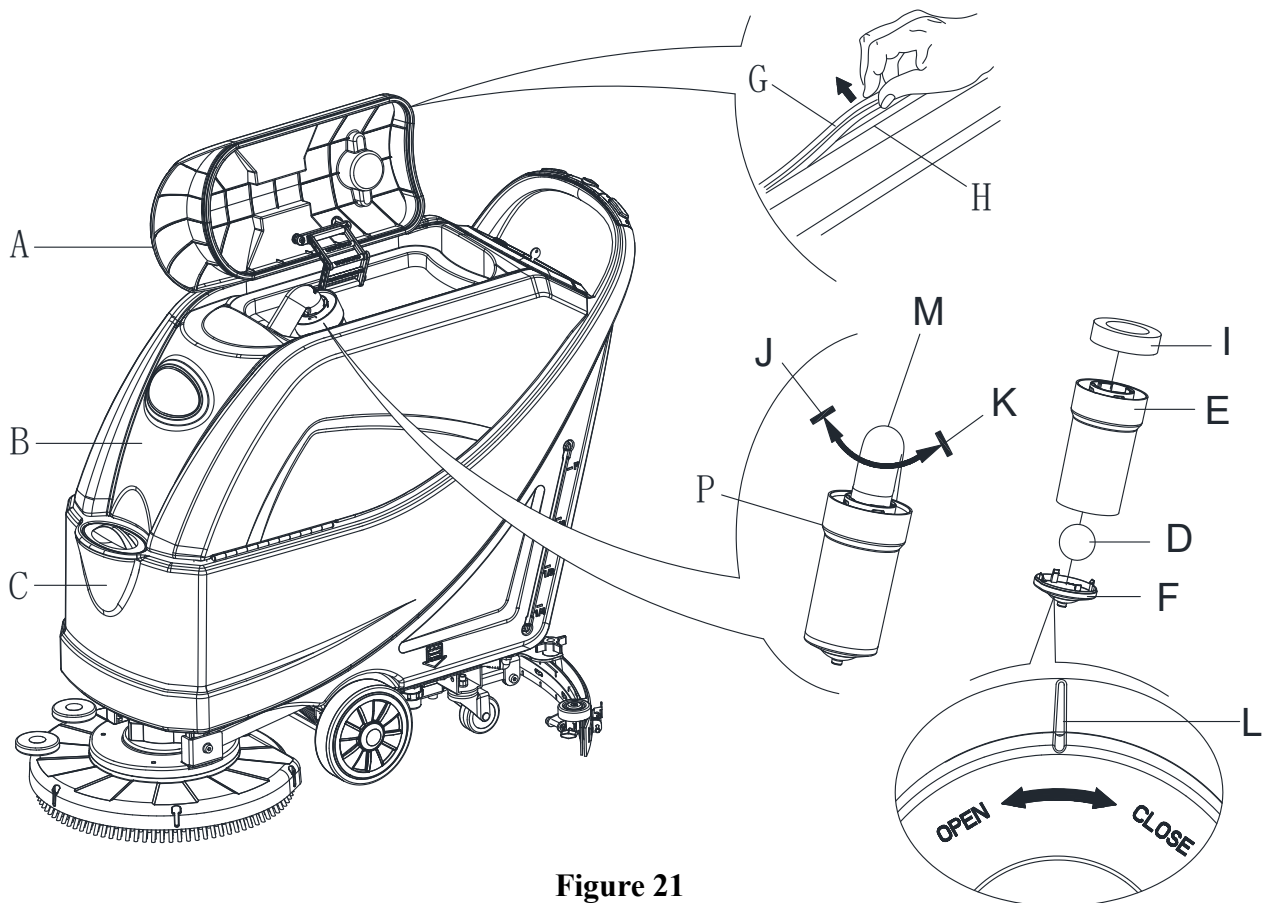

Figure 21
2. Ensure that the machine is off and the ignition key (54) has been removed.
3. Turn the recovery tank lid (A, Figure 21) 90 degree position where it can be taken off from the tank, and then take down the float ball filter (P) from the tank.
5. If necessary, follow the symbols "OPEN" and "CLOSE" as shown in (Figure 21) to open the bottom cover (F) of float ball filter and then clean the float ball (D), filter support frame (E) and filter sponge (I). After cleaning, fix the float ball (D) into the filter support frame (E) and then align the mark groove (L) of the bottom cap (F) of the float ball filter with the mark groove (L) of the float filter support frame (E). Screw the bottom cap of the float ball filter tight, and fix the filter sponge (I) onto the float filter support frame (E). Finally, connect it to the sewage suction hose (M).
**Tank sealing strip (G) makes to produce the vacuum inside the tank when suction motor works. The tank must be sealed can effectively absorb the water from the ground to recovery tank.**
7. Check whether the contact surface of sealing strip (G) is integrity and sealing is sufficient. If necessary, take the sealing strip of the tank out of the groove (H) and replace it. Assemble the new sealing strip as shown in (Figure 21), the joint should be back in the middle area.
8. Close the recovery tank lid (A).